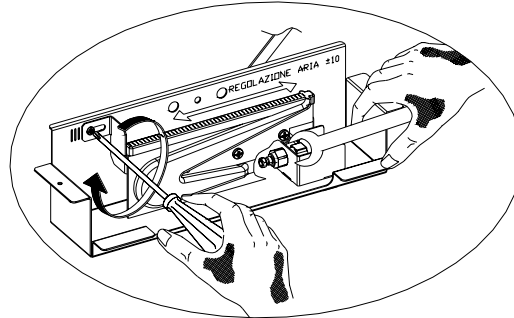

Fig 4 Gas Regulation.
- Re-fix the burner assembly ensuring that the injector is within the cut out in the rear of the oven and adjust the position of the burner to achieve the primary air gap (Fig. 4).